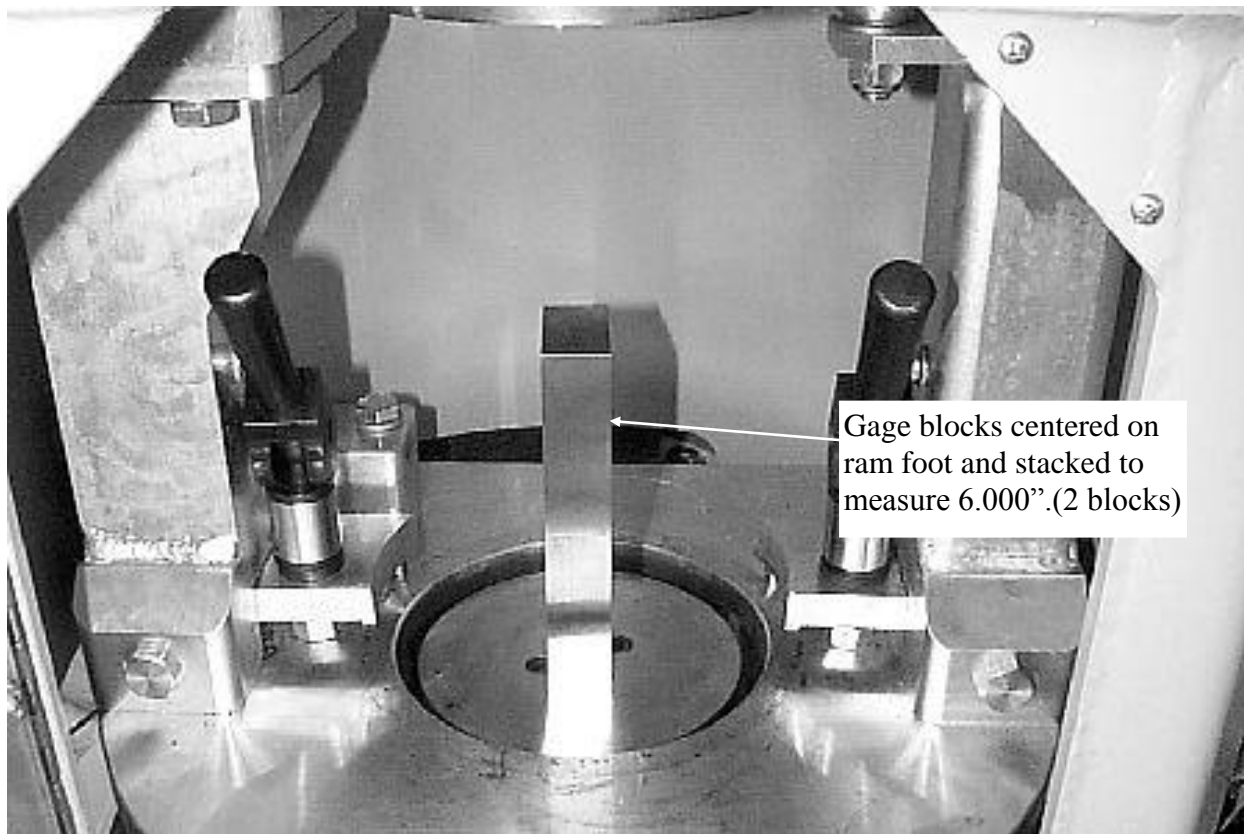

Figure 5.5: Gage Block Placement
- Place the gage blocks into the compaction chamber oriented for 152.4 mm (6.000 inch). Reference Figure 5.5.
- With the compactor in its parked position, remove the left side upper access cover and mount the verification apparatus as shown in Figure 5.5. Be sure to clamp the apparatus firmly but do not over tighten the mounting bolt. Make sure the mounting alignment pins are positioned against the edge of the frame. **Do not adjust the dial indicator after it is mounted to the machine.**